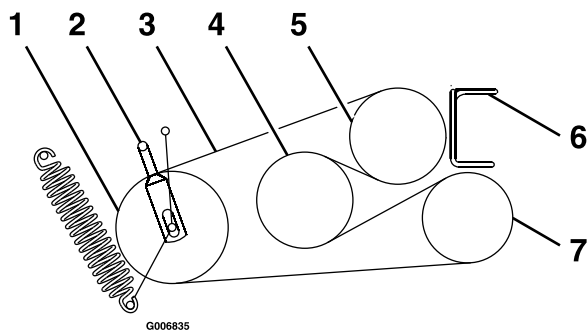

Figure 49
6. Loosen belt guides **A** and **B** (Figure 49).
8. Route the new belts onto the pulleys as shown in Figure 49.